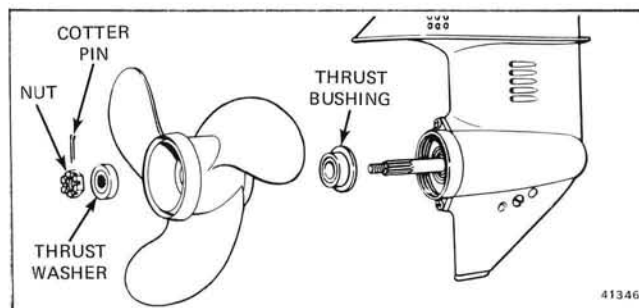

Figure 6-60. Propeller Installation Components
d. Coat propeller shaft splines with OMC Gasket Sealing Compound. Place thrust bushing in propeller and then slide assembly onto propeller shaft. See Figure 6-60. Install thrust washer on shaft spline. Install and tighten propeller nut finger tight and then tighten to align next cotter pin hole. Install cotter pin (use new pin if necessary), bending ends over nut.